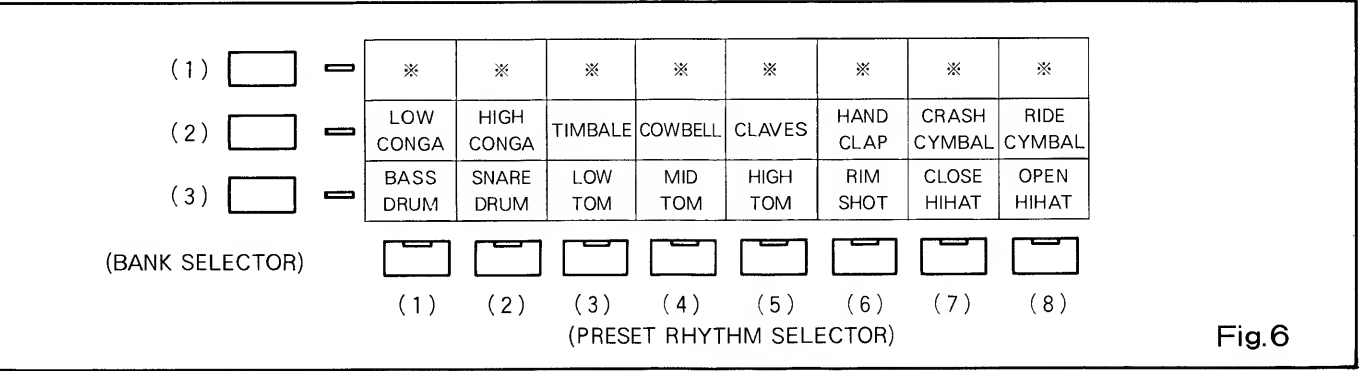

Fig.6
- 2) Select a particular sound by pressing Bank and Rhythm buttons as shown in Fig. 6 and verify the sound through monitoring.